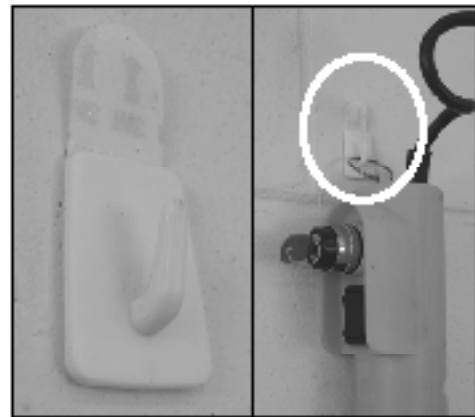

FIG. 10
- Secure the hand control switch holder hook (T) to a convenient location on the closest appropriate wall by removing the protective paper from the adhesive strip then adhere the hook to the wall by applying pressure with your fingers. (**SEE FIG. 10**)